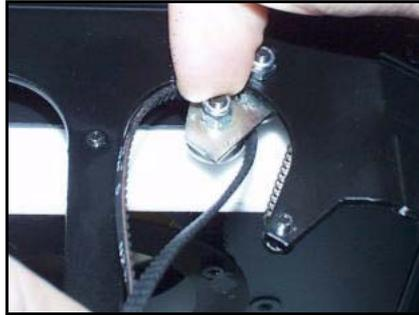

Fig. 12 Loop belt over tensioner
- 5 Pull the belt tension pulley forward and loop the new belt over it as shown in Fig. 12.